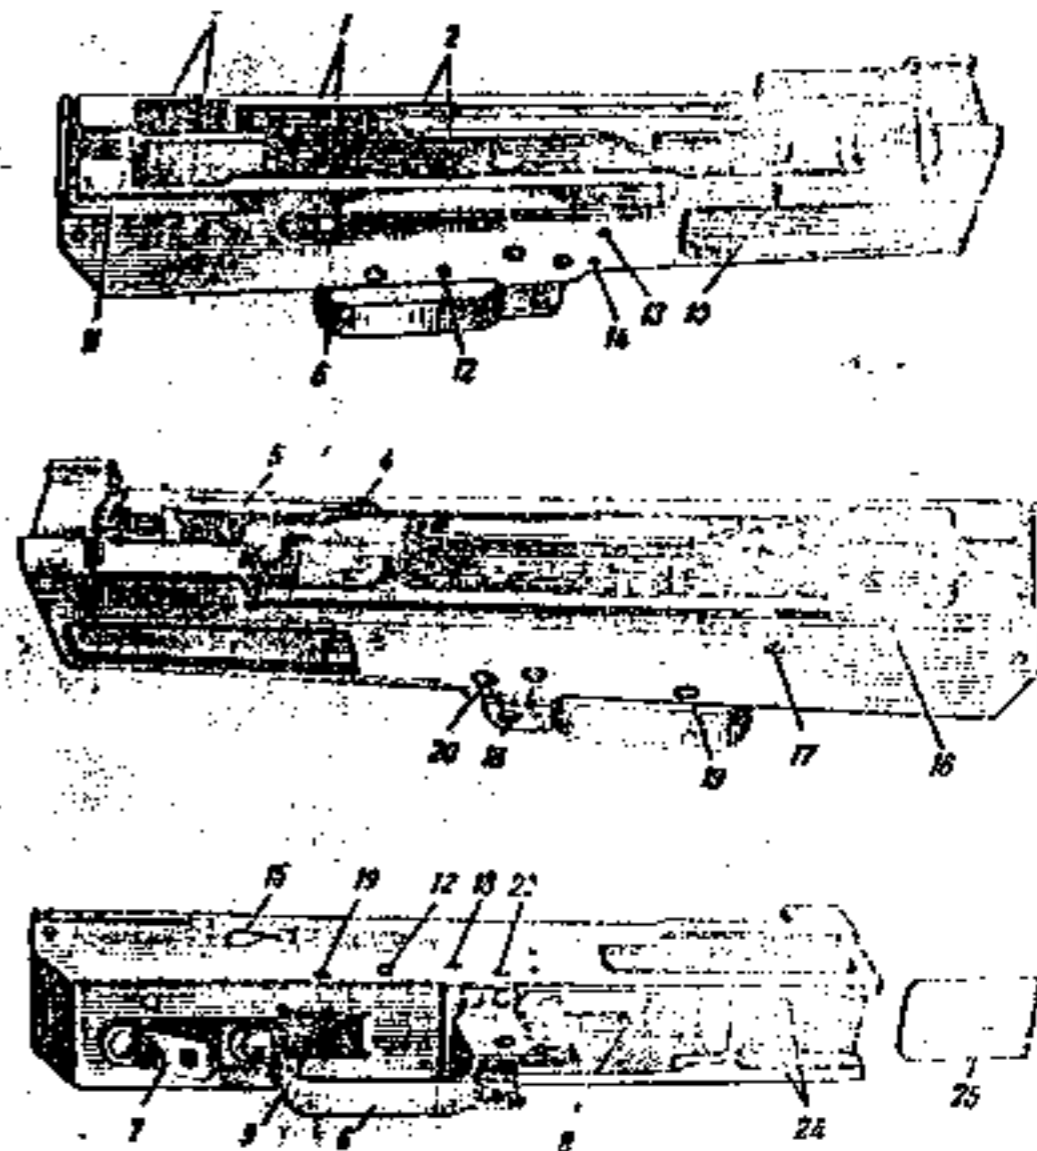

Figure 9. Receiver (assy. 1-11).
The receiver (fig. 9) serves to connect the parts of the automatic rifle and to direct the motion of the bolt and the operating rod. On the top of the receiver there are guides (1) for guiding the operating rod. The guides are provided with recesses (2) for passing the bolt lugs and recesses (3) for passing the operating rod lugs when the operating rod and bolt are being connected to the receiver. The right guide is provided with a semicircular recess (4) and bevel (5) for preventing the cartridge cases from striking the receiver in extraction.
In the forward portion the receiver is provided with a recess (24) with grooves for cover (25) (see fig. 9), which closes this recess.